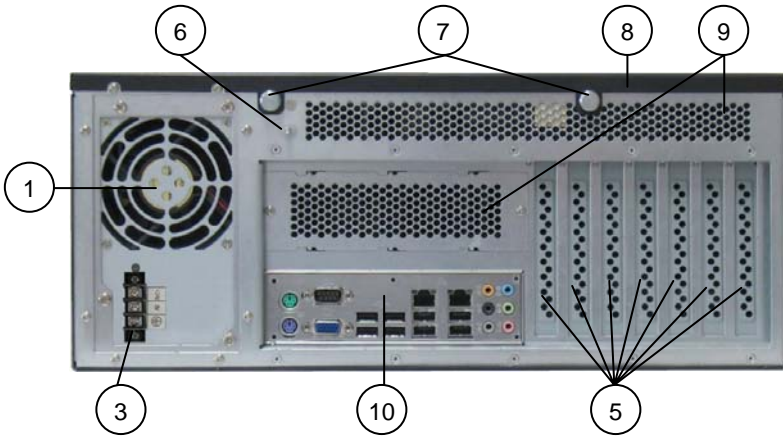

Fig. 13: Rear side of the KISS 4U with motherboard (configuration with DC PSU)
**Legend for figures: 13 and 13a:**